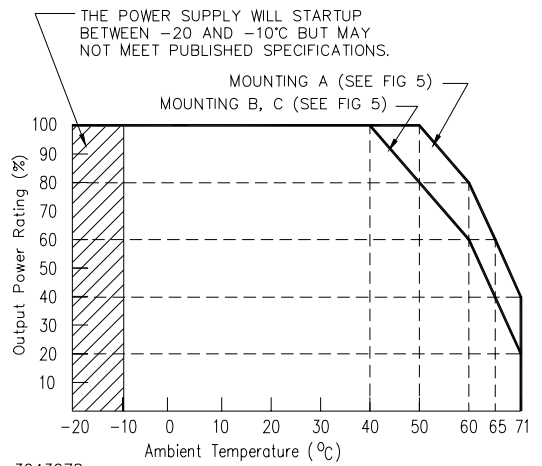

FIGURE 1. OUTPUT POWER VS. TEMPERATURE, K MODELS (WITHOUT COVER)
(1) Overtemperature or overvoltage shuts down the output. Recover by recycling a-c input (30 second delay required before resetting).
(2) Hiccup mode operation. After the cause of overcurrent is removed, output voltage recovers automatically.
(3) See Figure 1 for temperature and input voltage rating.
(4) Bandwidth 100MHz.
(5) Peak current: 10A for pulse mode operation.
(6) Ripple and noise will be approximately 1.5 times these values in the operating temperature range -10 ~ 0°C. The ripple and noise values tabulated are valid when the output is derated as shown in Figure 1 from 40 ~ 71°C.
(7) Used for remote programming of output voltage. See Section IV OPERATION, REMOTE VOLTAGE PROGRAMMING.
(8) Specifications apply both to models with K (no cover) and KC (cover installed) suffixes.
OPERATING TEMPERATURE: -10 to 71°C (start up -20 to -10°C). See the derating, Figure 1. See Table 1, Note (1) for overtemperature protection recovery.
MOUNTING THE POWER SUPPLY: Refer to Figures 5 and 6. The unit may be mounted on one mounting surface. Note the restrictions for maximum penetration of mounting screws. The air temperature surrounding the power supply must not exceed the ambient values given in the graph in Figure 1.
2. REFER TO FIGURE 1 FOR OUTPUT POWER VS. TEMPERATURE FOR MOUNTING METHOD SELECTED.